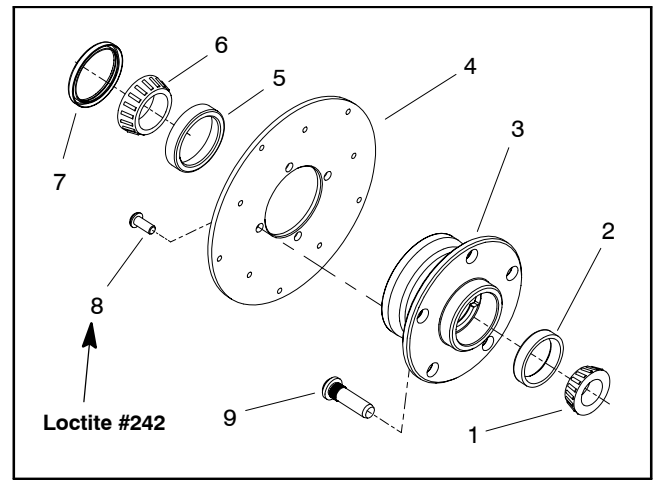

Figure 4
8. Disassemble the wheel hub (Fig. 4):
3. Assemble wheel hub (Fig. 4):